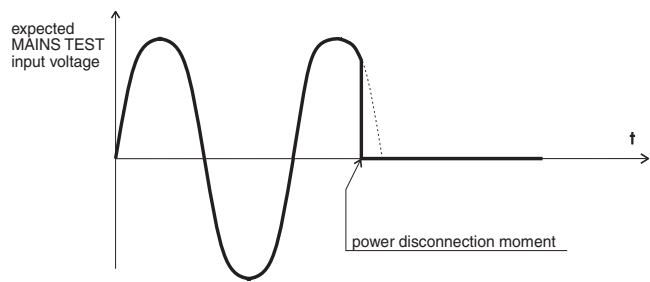

**Fig.22. Connection of the test leads**
2. Select 2-pole system by pressing the SYST. key (2-point 1s is displayed)
3. Connect the test cable to the instrument and to the tested unit in accordance with figure 22 ; le symbol is displayed above unit S, informing the user that the mains voltage is connected to the MAINS TEST input.